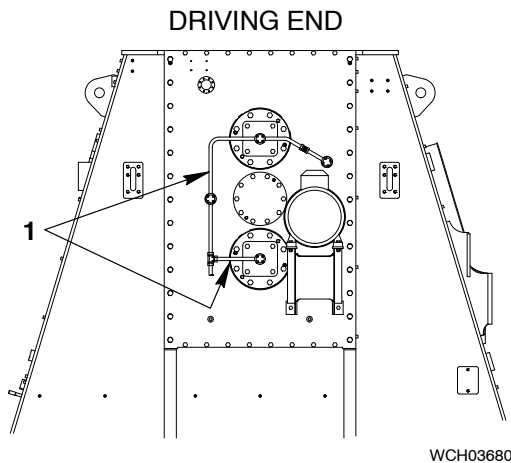

Fig. 2
- 4) At driving end, put an oil tray under applicable oil pipe (1, Fig.2).
- 5) Remove the applicable oil pipes (1) to get access to the balancer shafts.